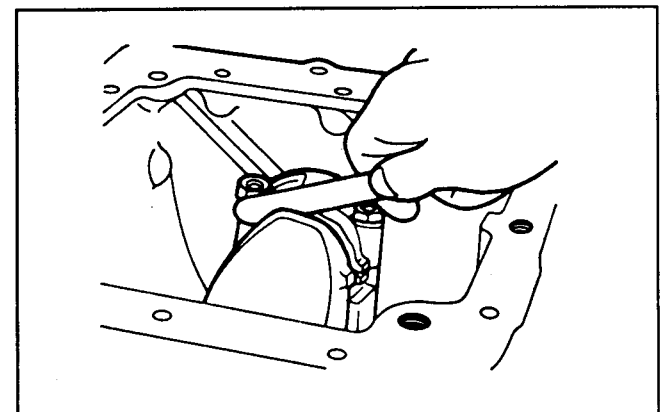

Figure 99
14. Assemble each connecting rod and bearing to the crankshaft in proper order. Use a feeler gauge to measure the side clearance between the connecting rod end and crankshaft (Fig. 99). Replace the connecting rod assembly if the side clearance is more than the specified amount.